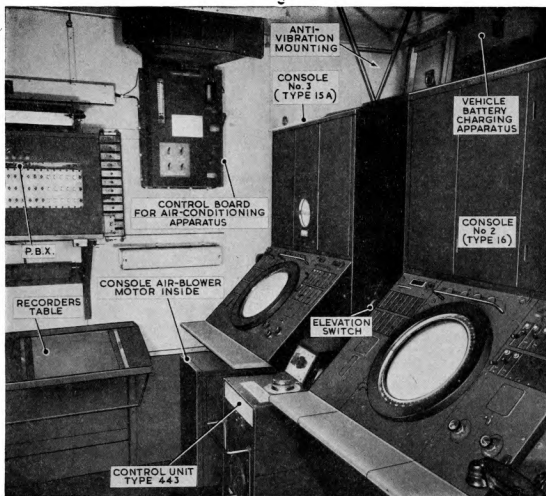

Fig. 38. R.V.467E : view towards front wall
- (1) 3 plotting tables.
- (2) GPO telephone equipment and associated battery charging apparatus.
- (3) Control units Type 442 and 443.
- (4) Vehicle battery charging apparatus for engine starting and emergency lighting.
- (5) Air conditioning equipment.
48. Fig. 38 and 39 show the layout of these units when the installation is complete. The vehicle body, or container, is thermally insulated and waterproofed to a height of two feet from the floor. Because of this no holes must be drilled in the floor. Two doors are provided; the main entry is at the front near-side of the container but there is also an escape door, with quick-release catch at the rear.
49. For ease of reference the consoles are numbered; when installed, console No. 3 is facing, and consoles No. 2 and 1 are to the right, when entering the main door. When in transit, consoles No. 1 and 2 are secured close to the centre of the floor and console No. 3 is secured against the off-side container wall in its normal operating position (fig. 38). When installing, the first task is to
- (1) Swing the anti-vibration mountings away and clip them to the roof (fig. 38).
- (2) Remove the two bolts securing the consoles to the supporting runners.
- (3) Push the console as far as possible towards the wall.
- (4) The holes in the framework of the console (from which the bolts were removed in (2)) should now line up with two holes in the fixed runners. Replace and tighten the bolts.
- (5) Unscrew the bolts in the section of the runners which is not in use, remove the runners, and store.
- (6) Check that the air duct is making good contact at the rear of the console.
- (7) Repeat (1) to (6) for the remaining console.